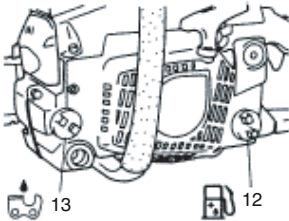

Fig. 8
##### ⚠ WARNING (Fig. 8)
#### Chain oil (Fig. 8)
When pouring fuel (12) or chain oil (13) into the tank, place the unit with cap side up. (Fig. 8)